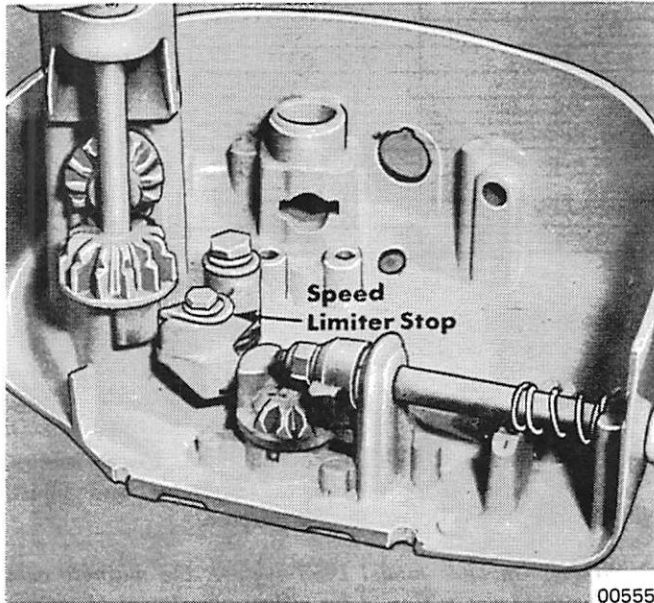

Figure 3. Neutral RPM Adjustment
2. Adjust neutral speed limiter stop to obtain a maximum speed of 2400-2700 RPM. (Figure 3)